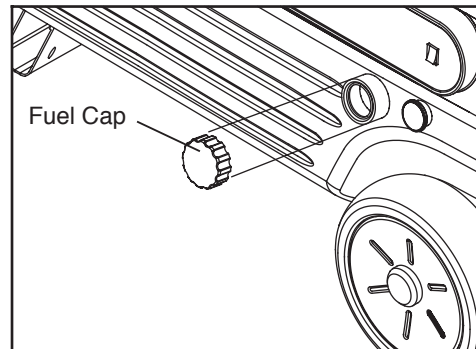

Figure 12. Remove Fuel Cap
1. Remove Fuel Cap (See Figure 12).